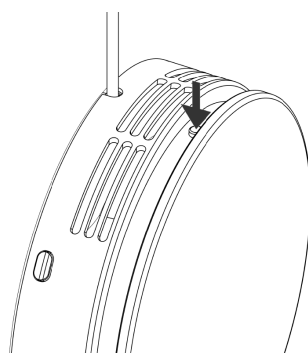

Figure 13 - Turn off the unit
1. Start by turning off the unit, see Figure 13 below. Wait 3 minutes until the unit has stopped rotating completely.